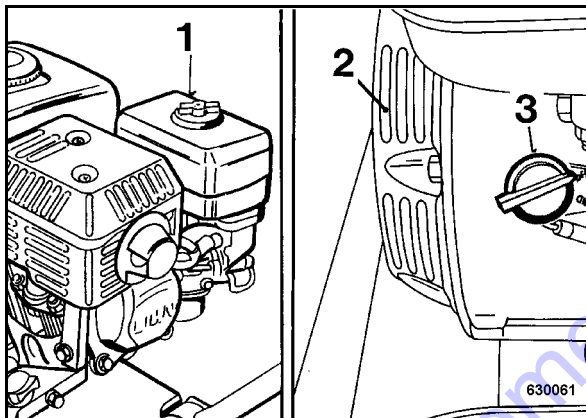

Fig. 41
Do not guide the water jet directly into air filter/ carburettor (1) (Fig. 41), starter/air intake (2) and the ignition switch (3).